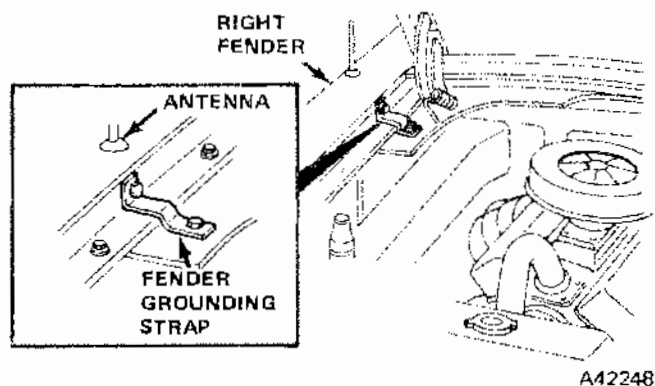

Fig. 3-93 Fender Ground Strap Installation
- (1) Provide a good fender ground (fig. 3-93).